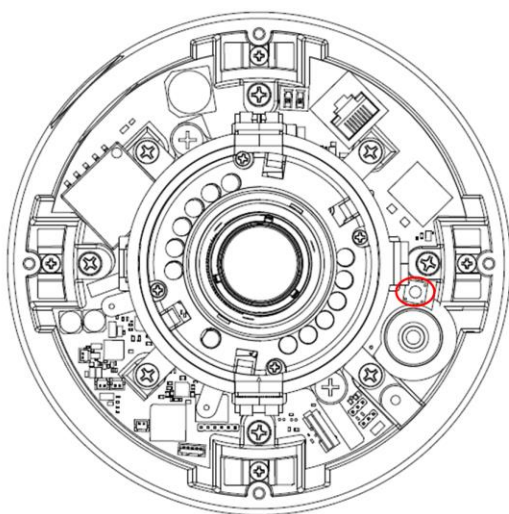

Figure 1: Reset Button
1. Press and hold the reset button as shown in Figure 1 for 10 seconds and release the reset button. The camera has been reset to the factory default. If the camera is not connected to DHCP server, the default IP address is 192.168.0.80